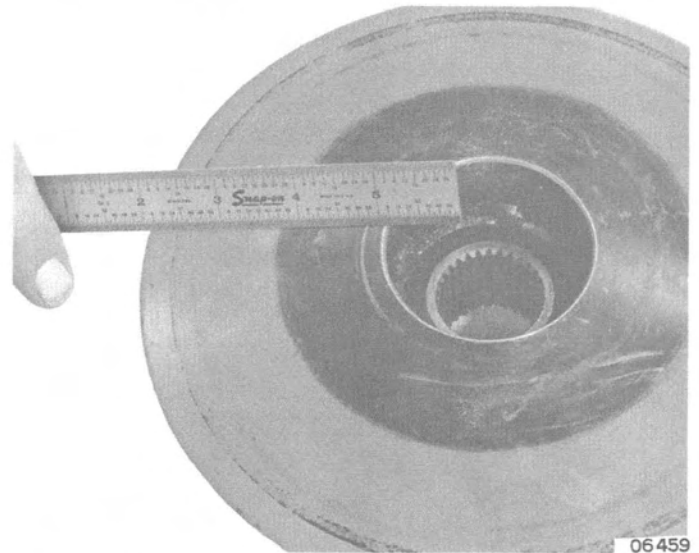

Figure 9. Checking Belt Faces with Straight Edge
5. Examine belt surface of pulley faces and replace if worn, grooved, pitted, scored or other damage. Check for wear by placing straight edge across surface (Figure 9)